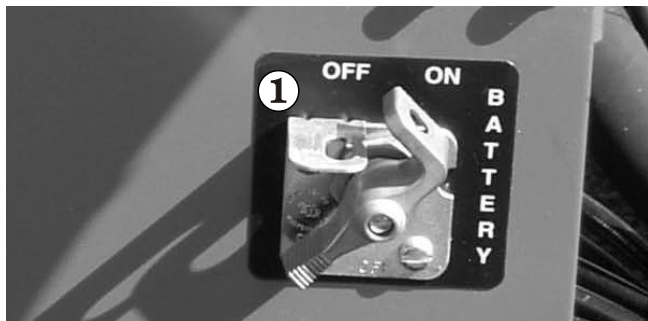

Figure 8.7
- Set the **Battery** switch **1** to on (see Figure 8.7).